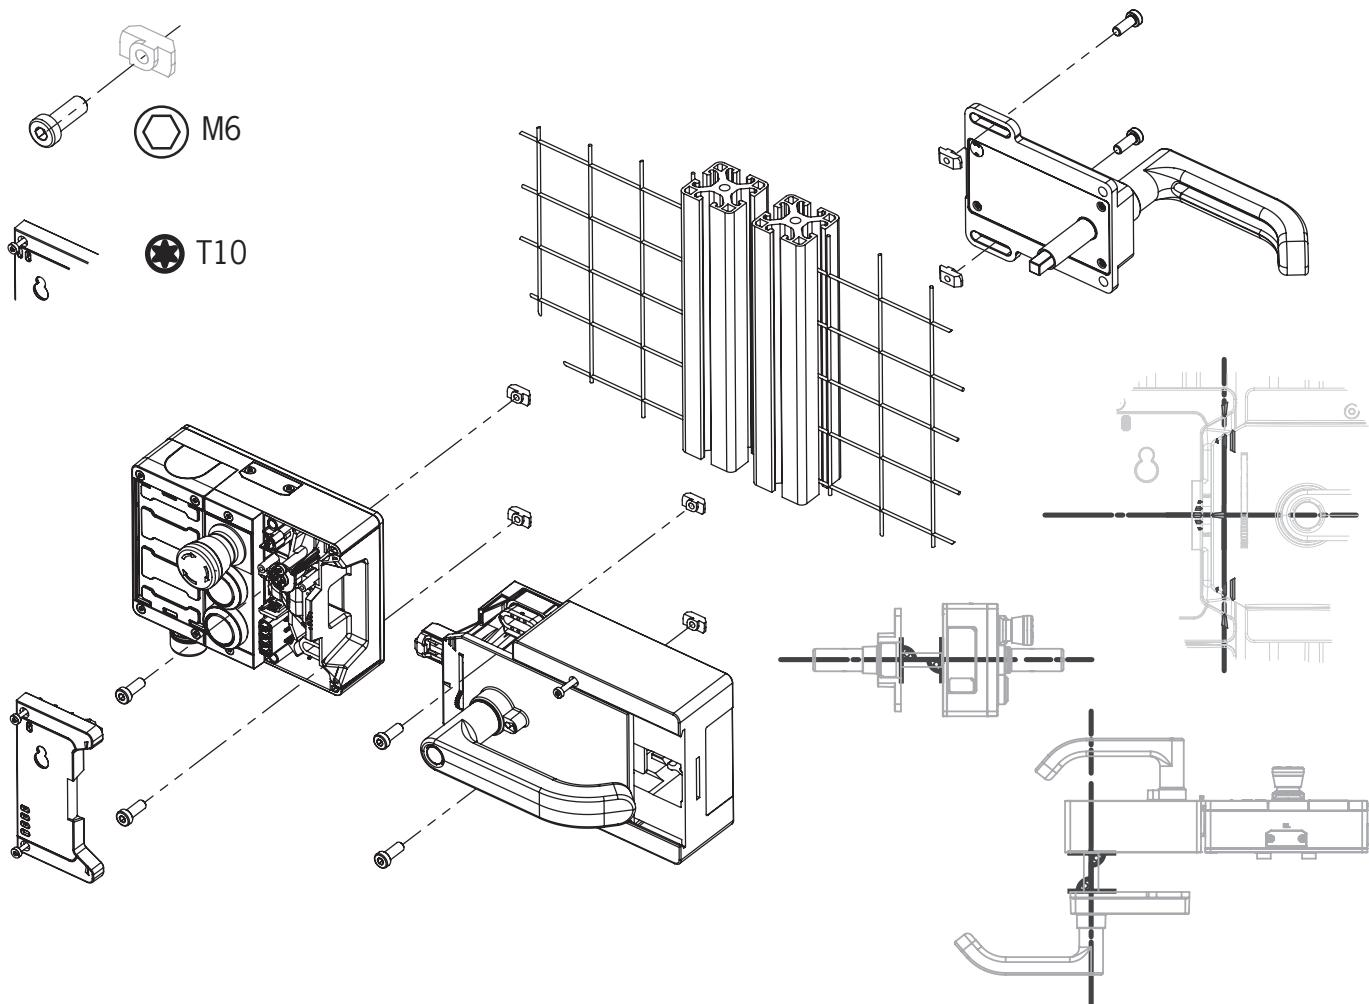

Figure 9: Installation example for door hinged on the right (general view)
- Align escape release axis at right angles to the handle module. See *Figure 9*.
For mounting steps , see *Figure 9* and *Figure 12* to *Figure 17*.